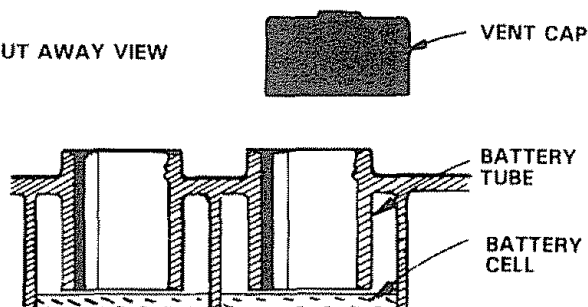

FIGURE 1
- Fill battery with battery acid to bottoms of tubes in cells (Fig 1). NOTE: DO NOT OVERFILL OVERFILLING WILL RESULT IN DAMAGE TO TRACTOR